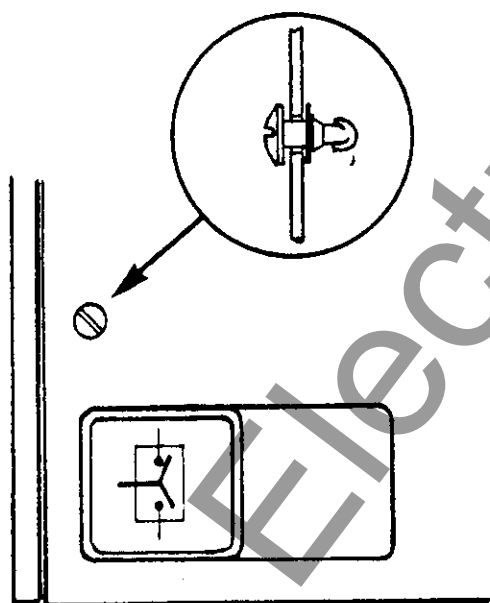

Figure 8. ¼ turn control panel cover fasteners
3. Remove the cover from the control panel. Use a screwdriver to turn the fasteners $\frac{1}{4}$ turn. See Figure 8.
7. Install the cover on the control panel. Align the cover over the two standing brackets, push it inward, and turn the fasteners $\frac{1}{4}$ turn. See Figure 8.